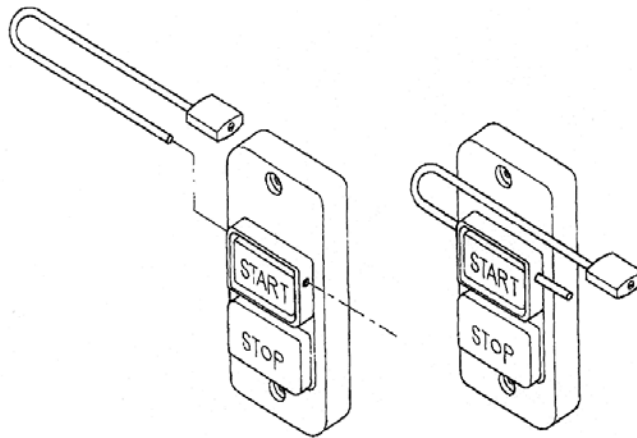

Figure 1
1. Open the padlock. See Figure 1.